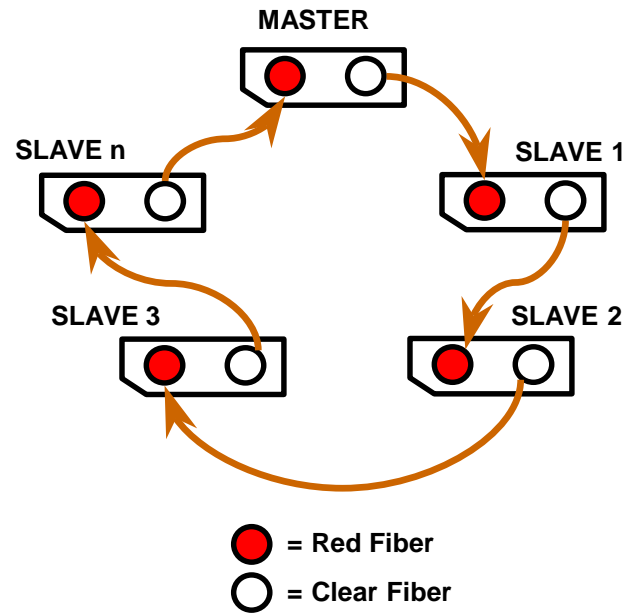

Figure 1
3. Optical fibers have a ring type configuration (i.e. The output of the previous component is coupled to the input of the next component in a daisy chain type loop. The ring must form a closed loop in order to function [Figure 1]).
4. Light enters the clear fiber (**input**) and exits the red fiber (**output**). Each active D2B connector must therefore contain one red and one clear fiber (Figure 1).
5. The red fiber is always on the chamfered side and the clear fiber on the square side of the connector (Figure 1).
6. All fiber connections or couplings should follow a clear to red logic. A coupling must never contain two fibers of the same color (Figure 1).